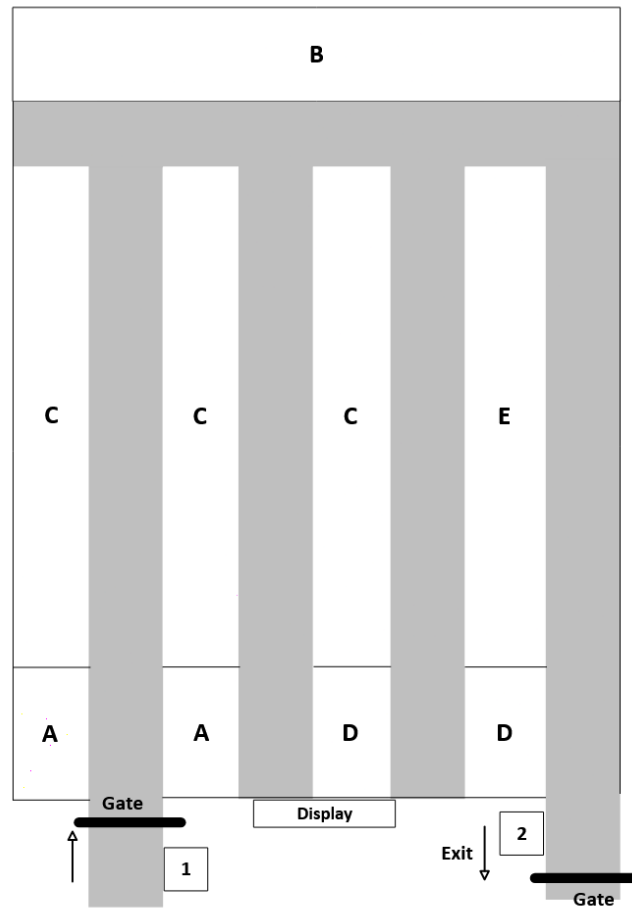

Figure 1: Parking Arrangements
The Outdoor Parking Management System (OPMS) is designed for member-only vehicle parking in an open area. The parking area is segmented for different vehicle types, as shown in Figure 1. Gray areas represent the roads.
- The exit process is similar, except the access controller comes first (Refer to Figure 1). The departure time is recorded once the user taps their card at the exit gate (Gate 2), and the available parking slot count will be increased.